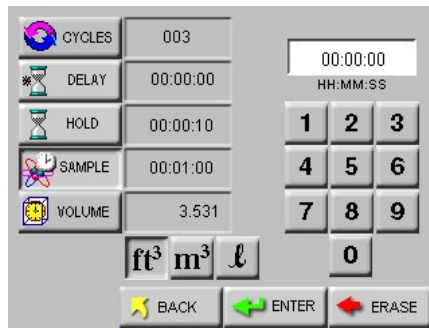

Figure 5-75 Reports Sample Set Up Screen
- Press the SAMPLE button to configure the number of Cycles, Delay time, Hold time, Sample time and Volume. See Figure 5-75.